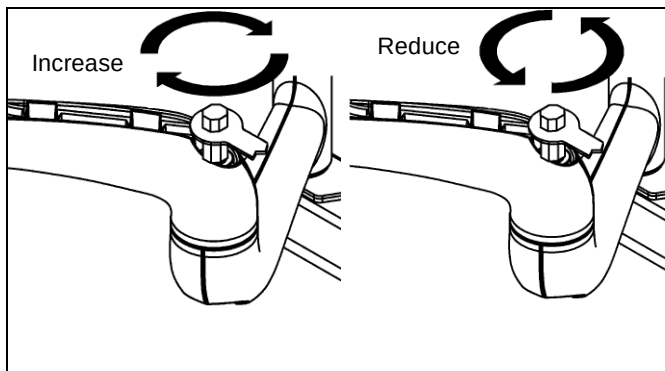

Figure 16
1. Locate the adjustment insert (F) and wrench (E) provided with the mount.
2. Place adjustment insert into socket head cap screw located at swing arm pivot point. (See Figure 16)
3. Using the wrench provided with the mount, turn adjustment insert clockwise to increase swing arm tension or counterclockwise to reduce swing arm tension. (See Figure 16)